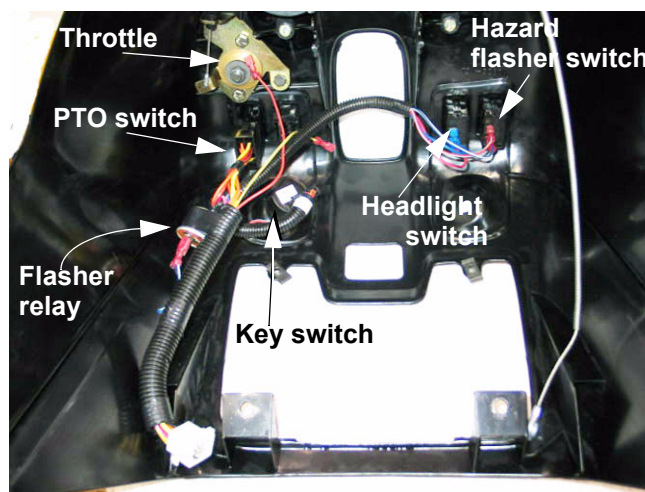

Figure 2.2
- 2.2. There are electrical components (instrument panel, key switch, dash panel wire harness, PTO switch, hazard flasher switch, headlight switch, hazard flasher relay) mounted to the dash panel. It is not necessary to remove the dash panel to service any of these components. See Figure 2.2.